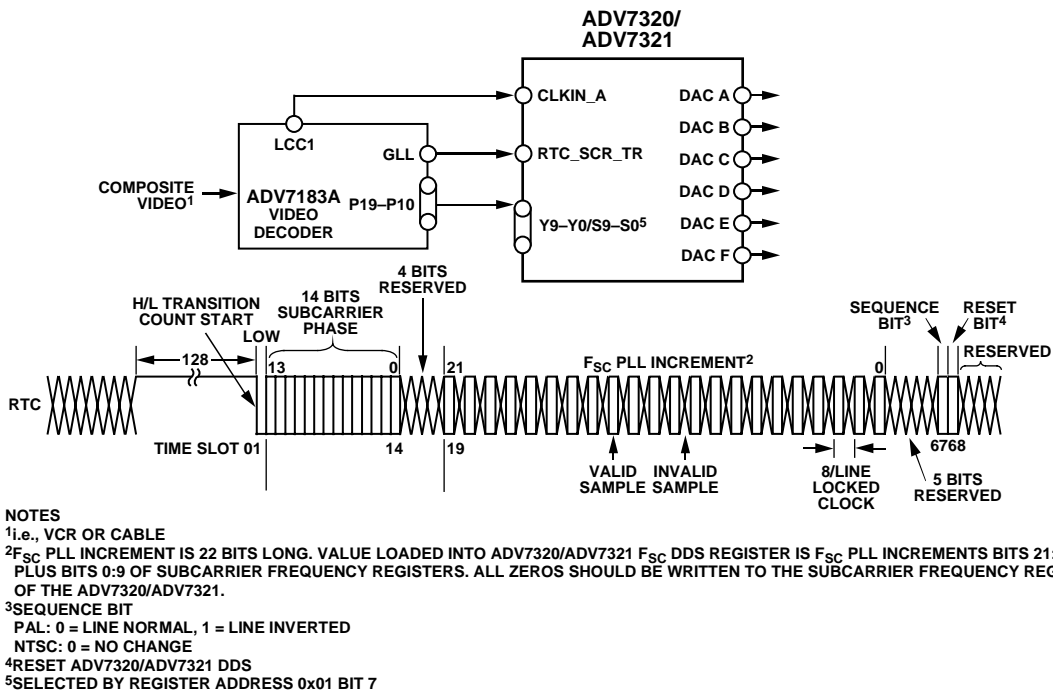

Figure 62. RTC Timing and Connections
- c. In RTC mode, the ADV7320/ADV7321 can be used to lock to an external video source. The real-time control mode allows the ADV7320/ADV7321 to automatically alter the subcarrier frequency to compensate for line length variations. When the part is connected to a device, such as an ADV7183A video decoder (see Figure 62), that outputs a digital data stream in the RTC format, the part will automatically change to the compensated subcarrier frequency on a line-by-line basis. This digital data stream is 67 bits wide and the subcarrier is contained in Bits 0 to 21. Each bit is two clock cycles long. Write 0x00 into all four subcarrier frequency registers when this mode is used.